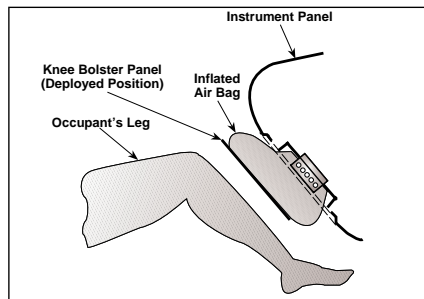

Figure 2—The 1996 KIA Sportage SUV features an inflatable knee bolster. (Courtesy of Morton International)
**A** The air bag you refer to is actually an inflatable knee bolster. The inflatable knee bolster is available on the driver's side of the 1996 Kia Sportage SUV. The system is made up of an air-bag activated knee-bolster panel located in the lower instrument panel (see Figure 2). The panel protects the driver's knees and lower legs in a frontal impact.